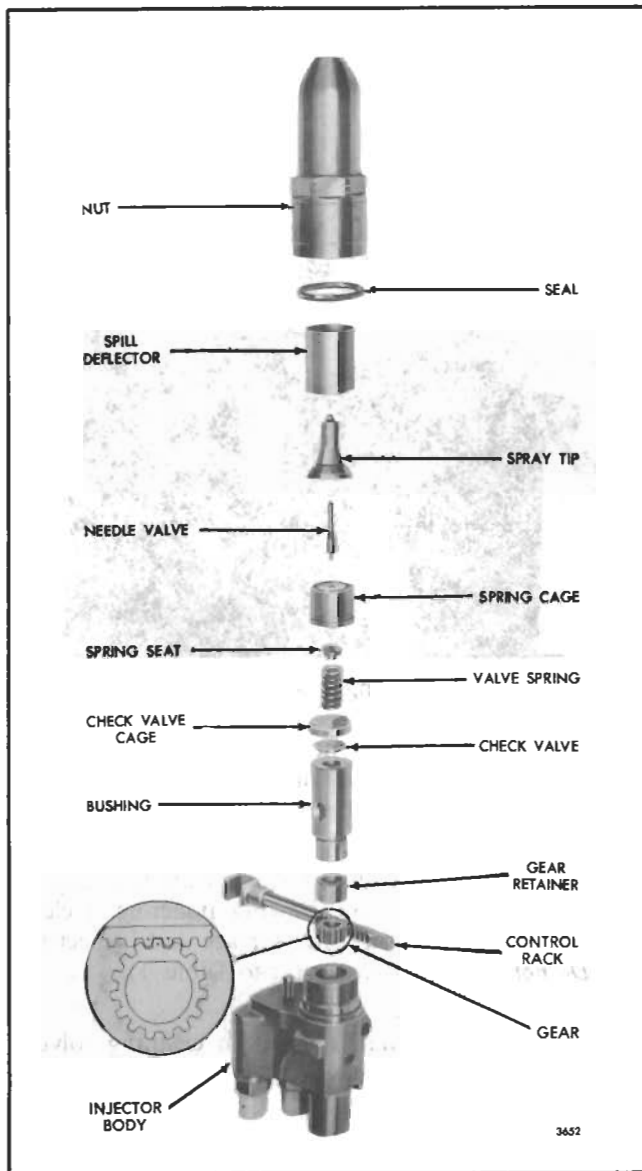

Fig. 37 - Injector Rack, Gear, Spray Tip and Valve Assembly Details and Relative Location of Parts
6. Refer to Fig. 37 and remove the spill deflector. Then lift the bushing straight out of the injector body.
Refer to Fig. 37 and note the drill spot marks on the control rack and gear. Then proceed as follows:
2. **Place the gear in the injector body so that the marked tooth is engaged between the two marked teeth on the rack (Fig. 37).**
Refer to Fig. 37 and assemble the parts as follows: